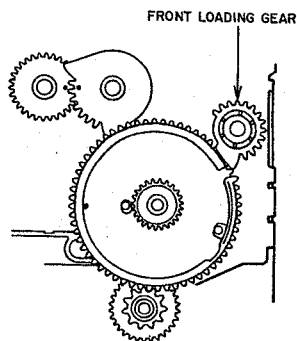
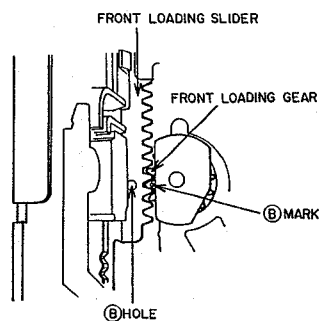

Fig. 3-10
Fig. 3-11
- 3) Attach the FRONT LOADING GEAR as shown in Fig. 3-10 and align the Ⓑ mark on the FRONT LOADING GEAR with the Ⓑ hole of the FRONT LOADING SLIDER as shown in Fig. 3-11.